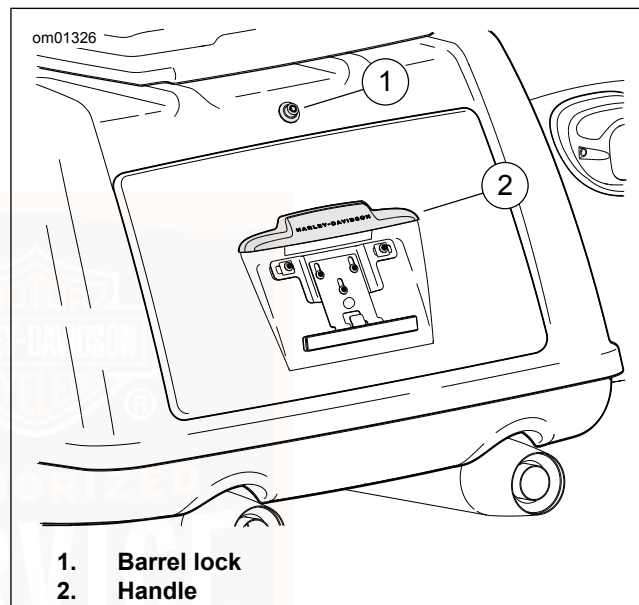

Figure 57. Trunk (typical)
2. See Figure 57. Push in the barrel lock to unlatch door. Pull handle to open trunk door.